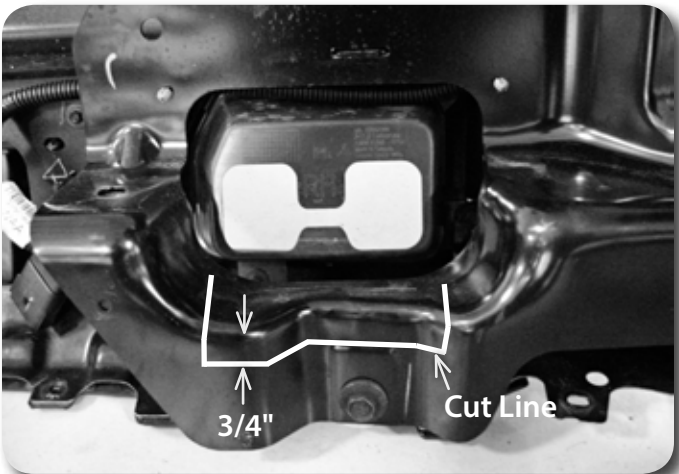

Figure 15
24. The front bumper mounts will also need to be modified. Make a cut mark  $3/4$ " below the edge of the bracket as shown. **Figure 15** Finish the cut line by going straight up to the original opening in the bracket. Cut at the marks with a cut off wheel or reciprocating saw.